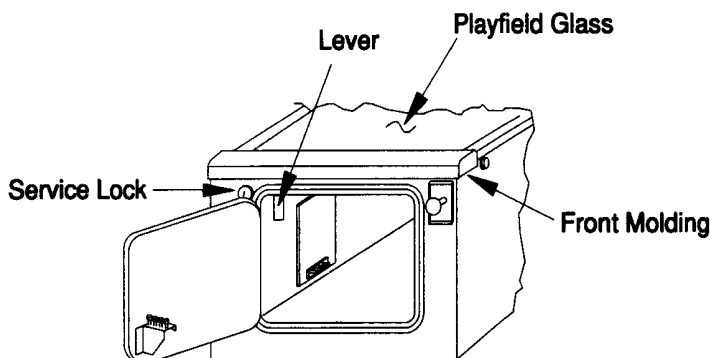

FIGURE 1
1. To start removing the playfield from the cabinet, set the cabinet on a level surface. Unlock and open the coin door. Pull the yellow lever, (located on the left side of the coin door opening), to the right. The front molding pops up. Lift the molding from the cabinet. Slide the playfield glass down and lift it off of the cabinet. See Figure 1.